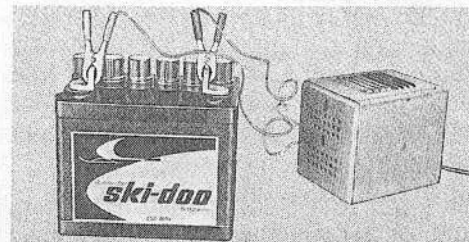

Figure 80
- Charge the battery and store it in a cool and dry place. See Fig. 80.